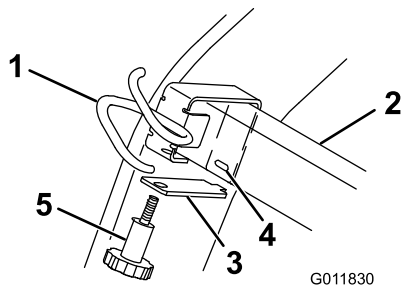

Figure 3
2. Place the cable guide over the loader arm cross bar on the far right side (Figure 3).
3. Insert the clamp into the slot in the cable guide, then secure it with a knob (Figure 3).